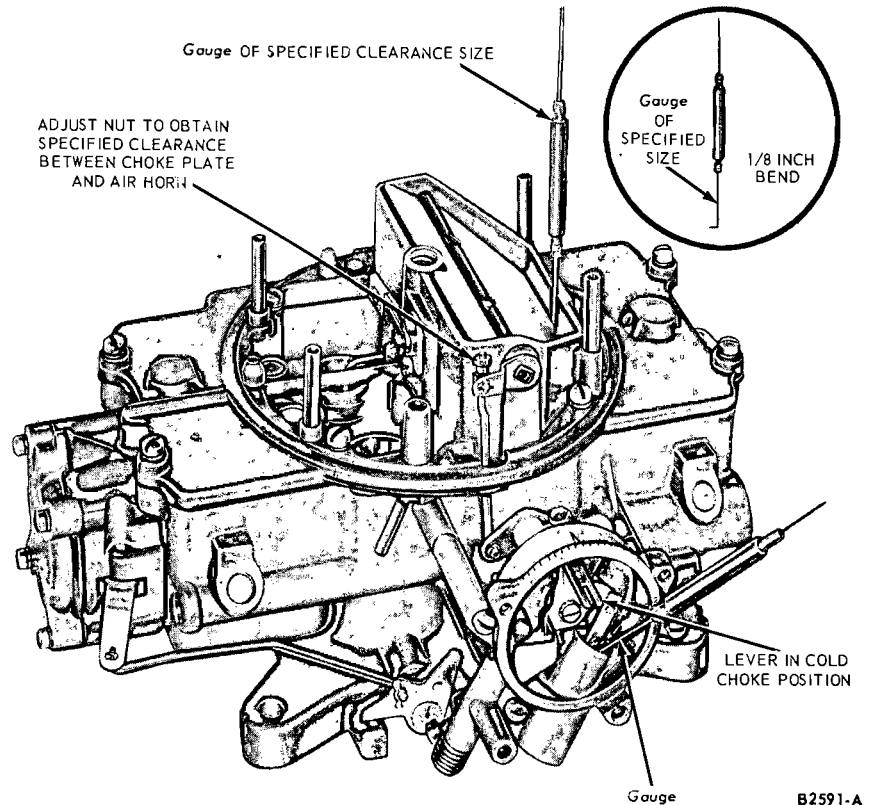

FIG. 16—Choke Plate Clearance (Pull-Down) Adjustment (Typical)—Autolite Models 2100 2-V and 4100 4-V
6. Rotate the spring housing counterclockwise (rich direction) to align the center index mark on the choke housing with the index mark on the spring housing. Rotate the spring housing an additional 90 degrees counterclockwise (Figs. 16 and 17) and tighten the retaining screws.